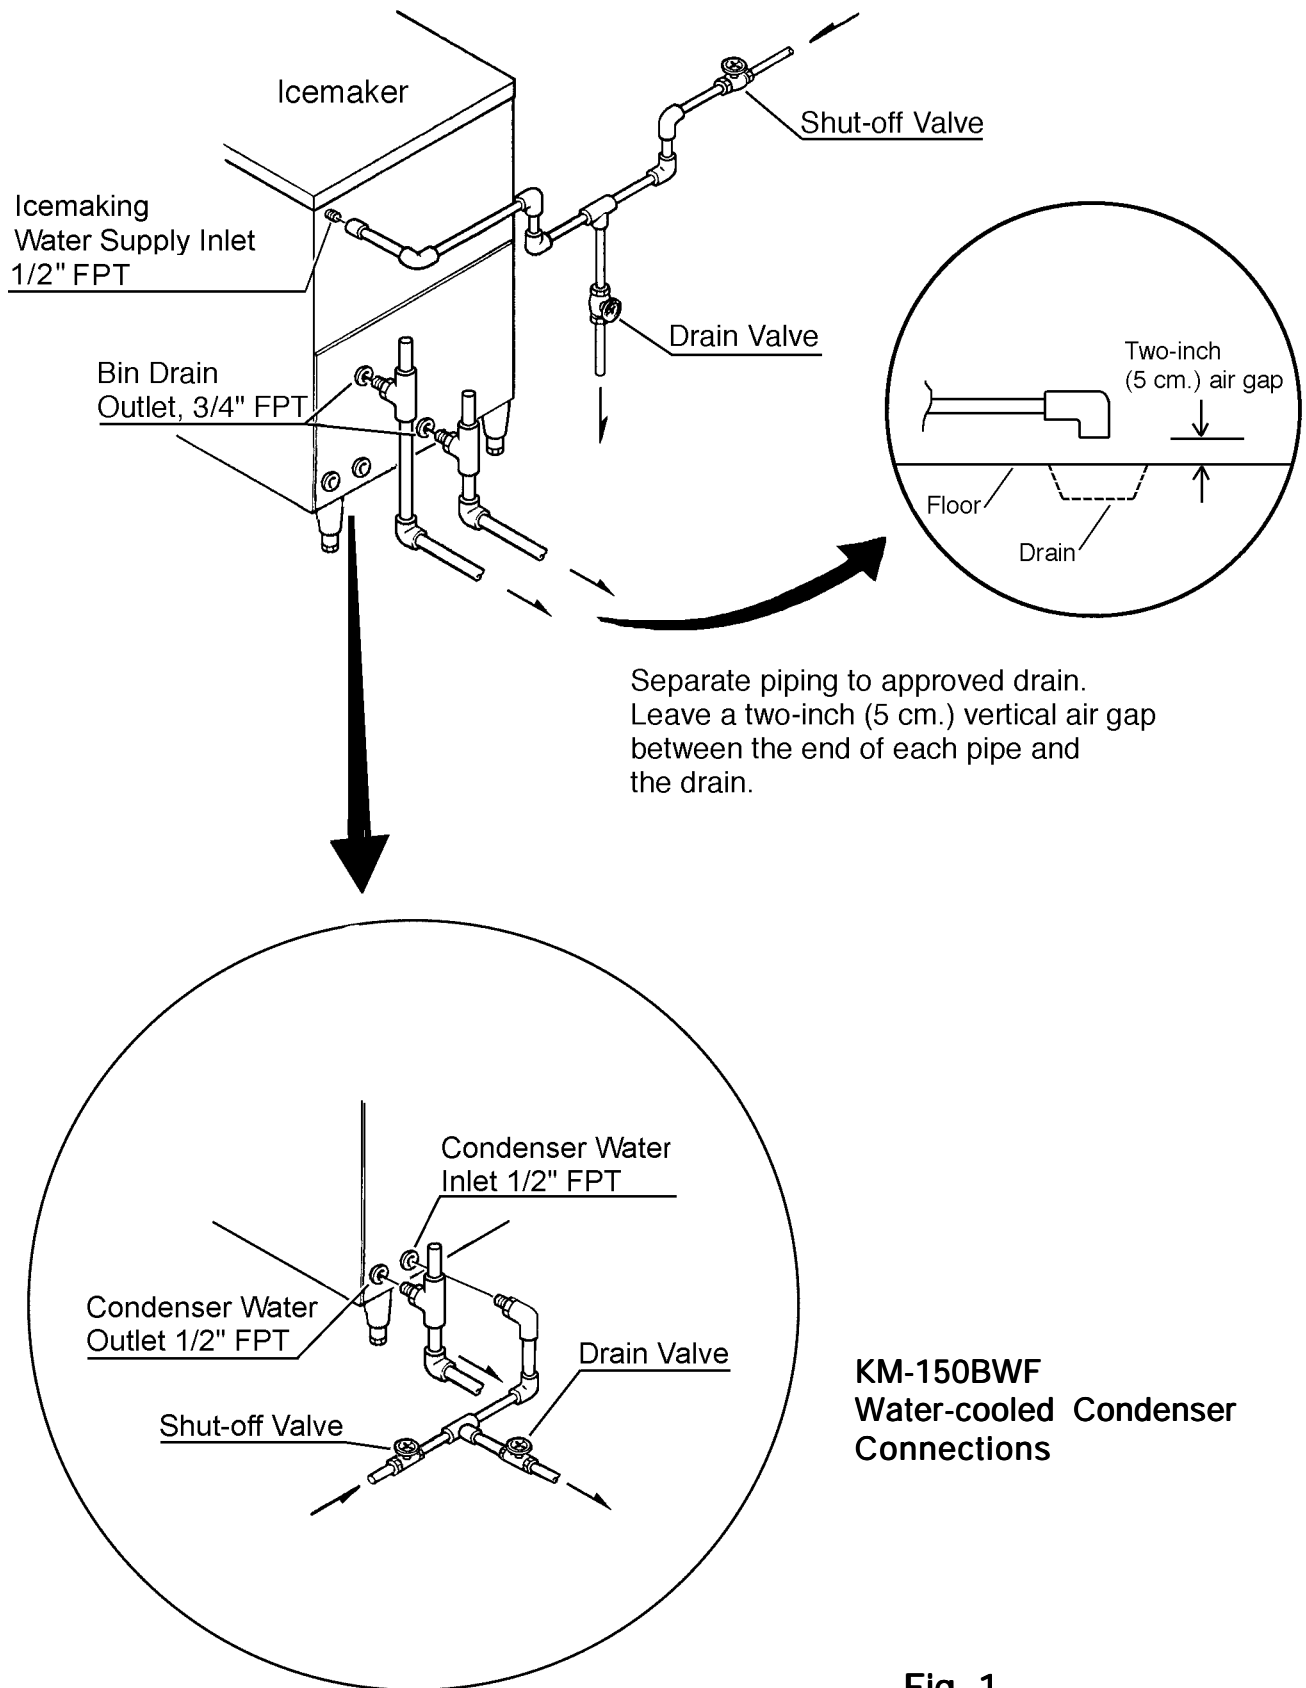

Fig. 1
4. WATER SUPPLY AND DRAIN CONNECTIONS - See Fig. 1
- 6) Close the Water-cooled Condenser Water Supply Line Shut-off Valve. See Fig. 1.
- 4) Close the Potable Water Supply Line Shut-off Valve and open the Potable Water Supply Line Drain Valve. See Fig. 1.